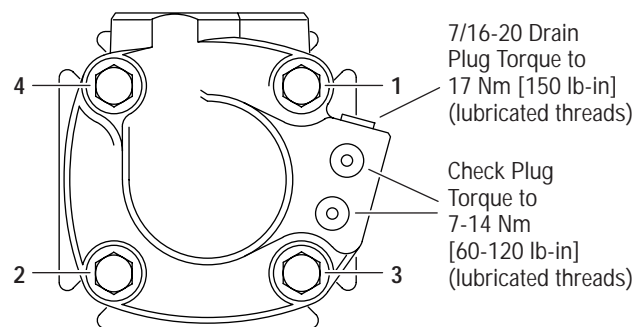

Figure 23
**45** Install and finger tighten 2 bolts (or studs for earlier models) opposite alignment studs. Remove alignment studs and install remaining bolts (or studs and 4 nuts for earlier models). Torque bolts (or nuts) to 85 Nm [750 lb-in], in sequence (see Figure 23).